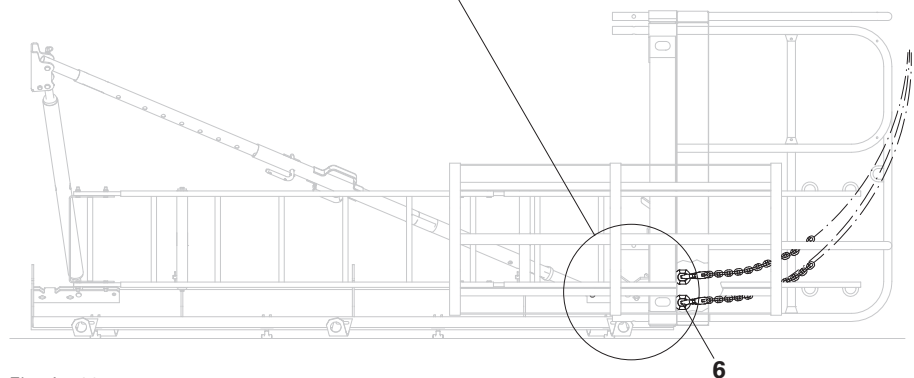

Fig. A4.03
1. Attach 3-sling lifting gear to the ring bolts (6). (Fig. A4.03)